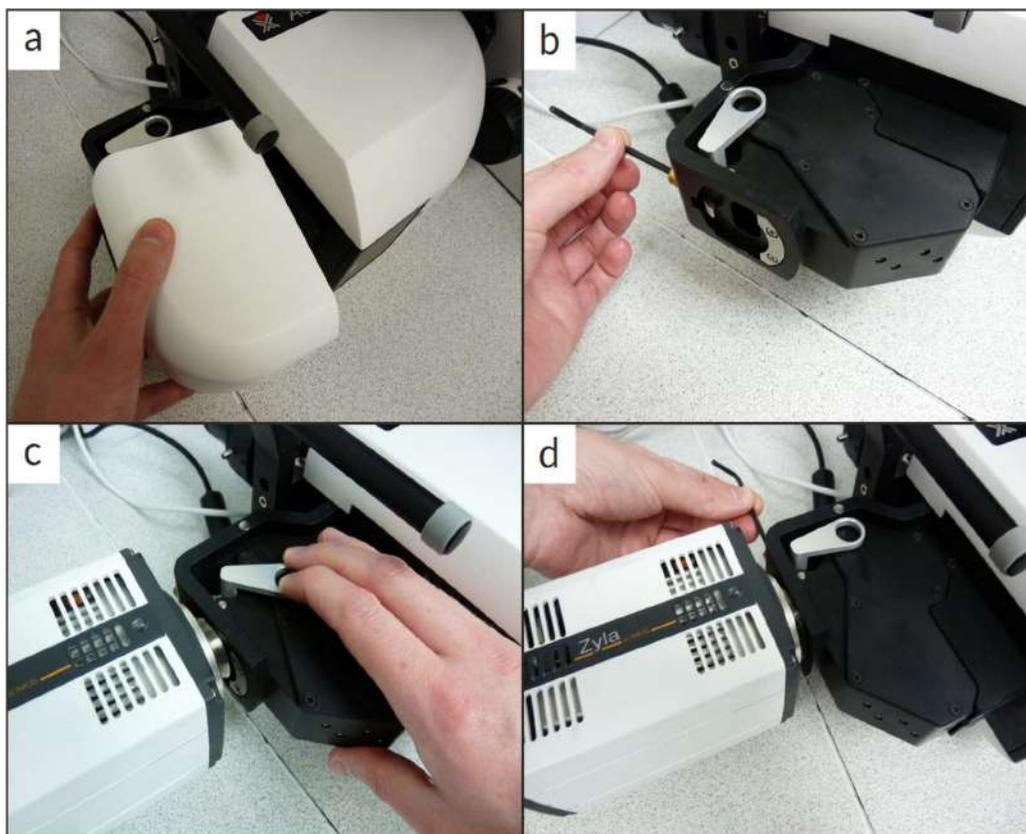

Figure 5.4.7 Attaching camera: (a) slide cover off, (b) unlock adapter, (c) attach camera, (d) camera adapter locking screw.
3. Remove the camera adapter cover from the Clarity by sliding towards you as shown in figure 5.4.7 (a) and set aside.
4. Loosen the locking screw as shown in figure 5.4.7 (b).
5. Holding the camera in your left hand, gently pull the spring loaded lever towards you with your right hand and insert the dovetail part of the camera adapter into the camera port of the Clarity as shown in figure 5.4.7 (c). Release the lever and ensure the camera is held in place.
6. Rotate the camera until it is approximately square and use the locking screw to gently lock the camera in place as shown in figure 5.4.7 (d).